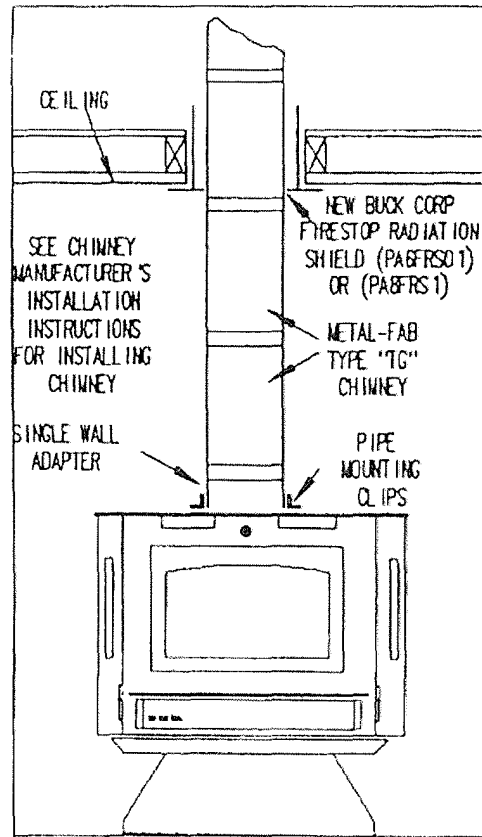

FIGURE 15
4. Obtain the pipe mounting clips and screws provided in the free-standing kit box and secure the single wall chimney adapter to the heater. (See figure 15).